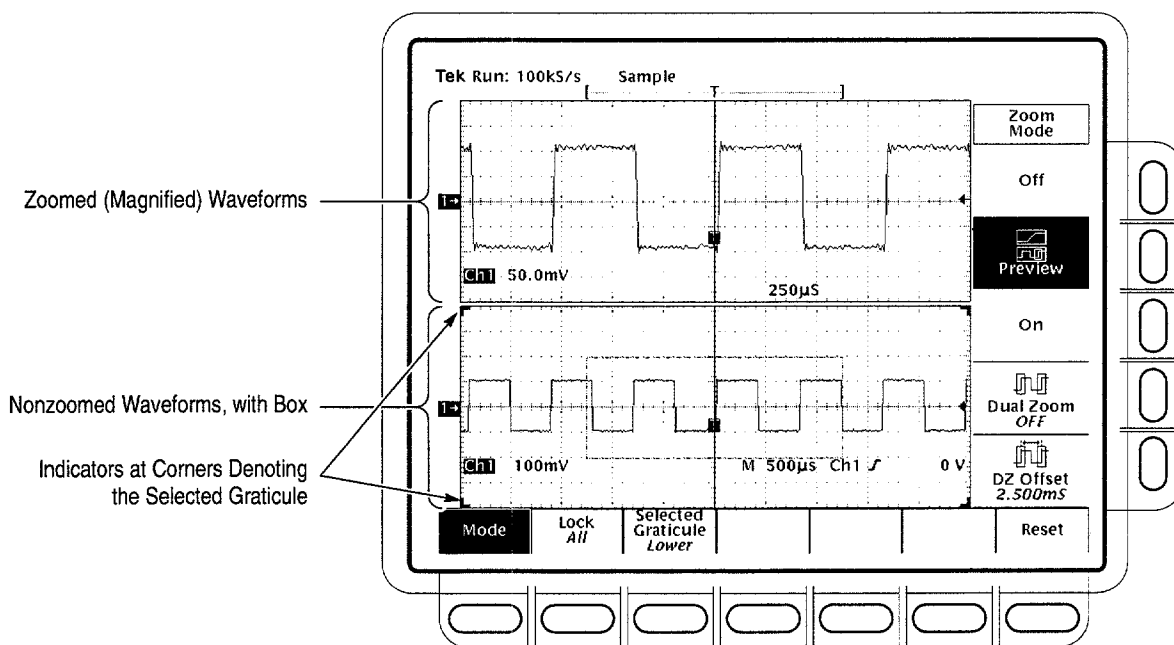

Figure 3-26: Dual Window (Preview) Mode
1. Press **Zoom** → **Mode** (main) → **Preview** (side). Note that the oscilloscope displays the box-enclosed area on the waveform as magnified in the top graticule. (See Figure 3-26.)